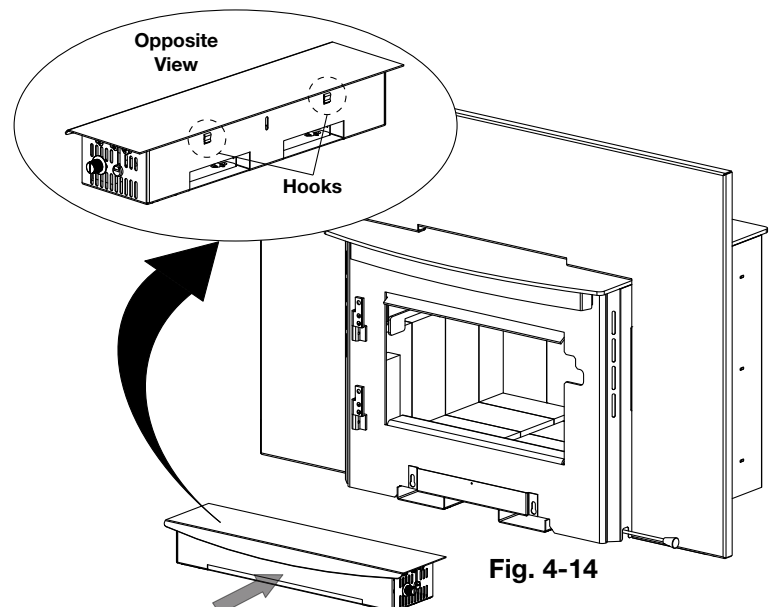

Fig. 4-14
- Secure the hooks in the blower assembly over the blower mounting bracket (**Fig. 4-14**), and then slide the blower assembly down until it is secure. Ensure the blower assembly is centred to the firebox.